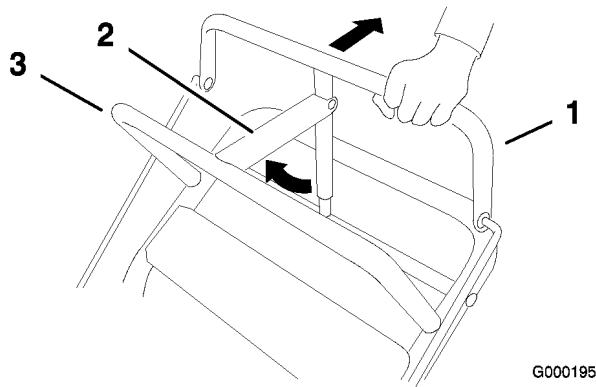

Figure 18
1. Pull the upper control bar (Figure 18) rearward and hold it in this position.
2. Lift the parking brake lock (Figure 18) up and gradually release the upper control bar. The brake lock should stay in the set (locked) position.